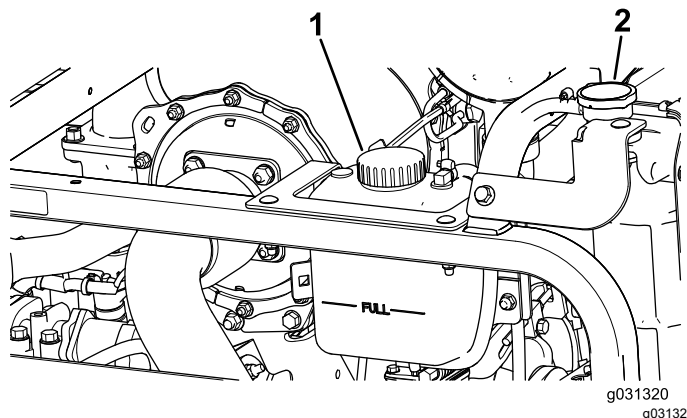

Figure 118
1. Carefully remove the radiator cap and expansion-tank cap (Figure 118).
2. Check the coolant level in the radiator (Figure 118).